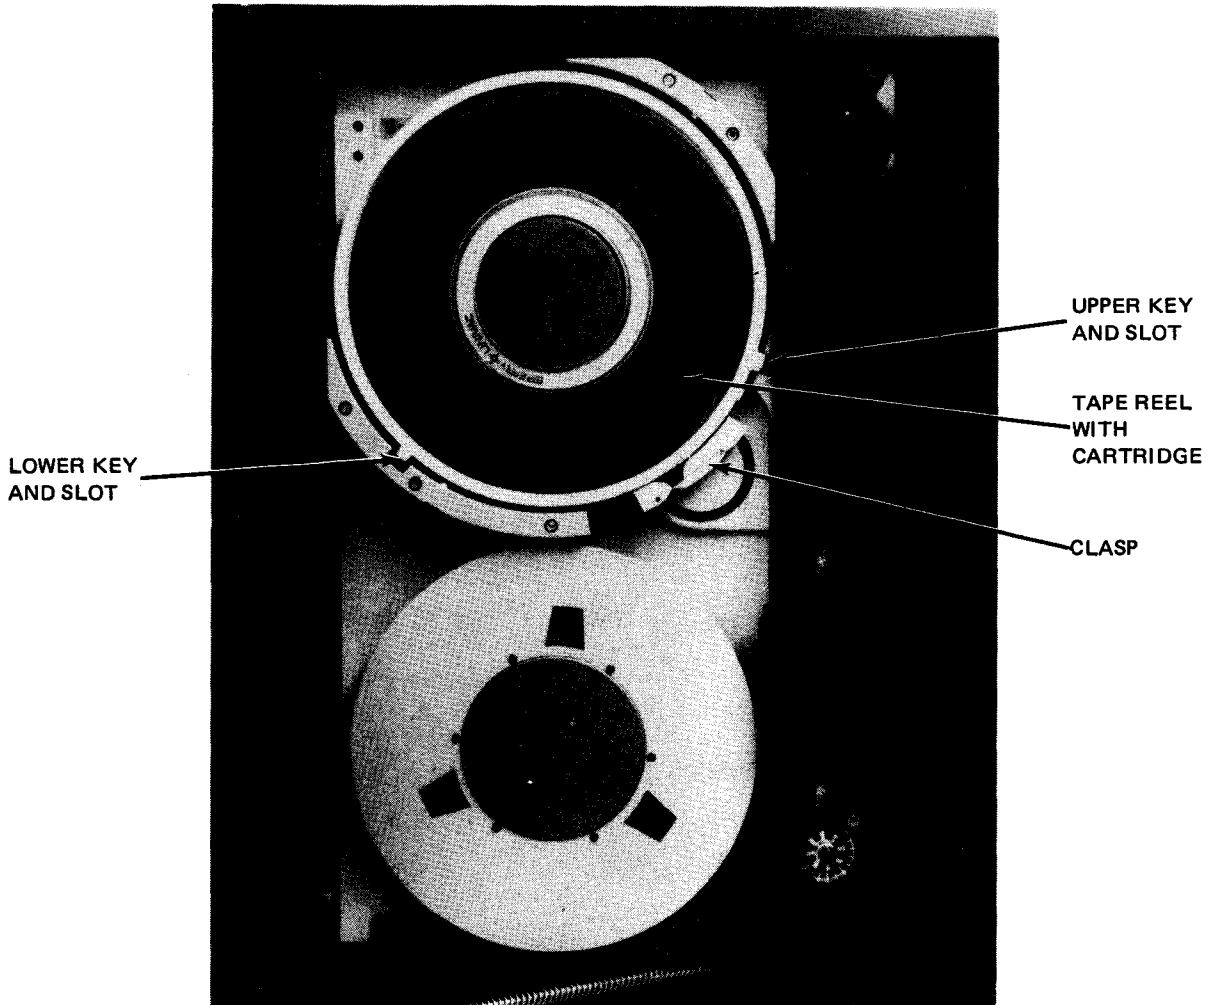

Figure 4—19. Tape Reel Cartridge Mounted on Supply Hub
3. Mount reel on supply hub so that leading edge of tape can be inserted into tape loading slot (Figure 4—20).